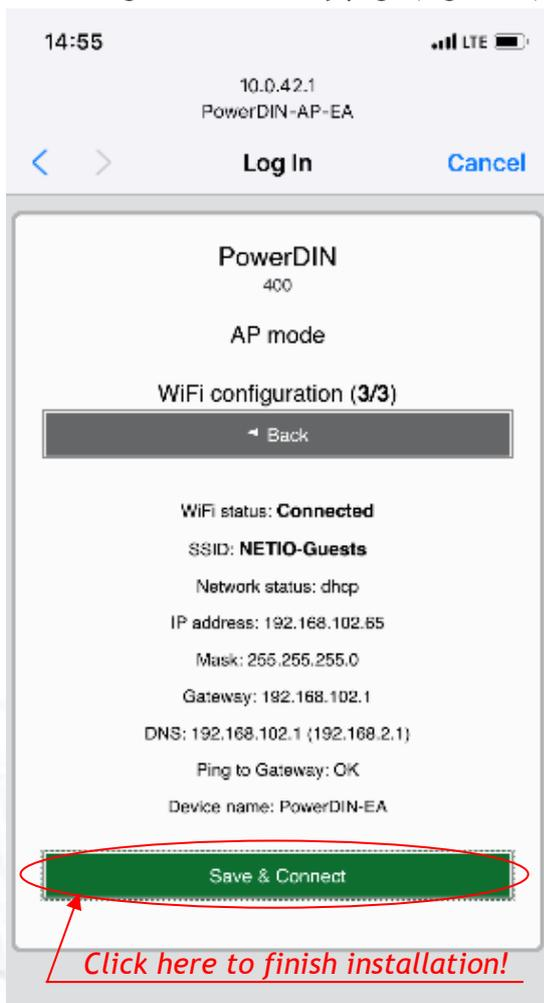
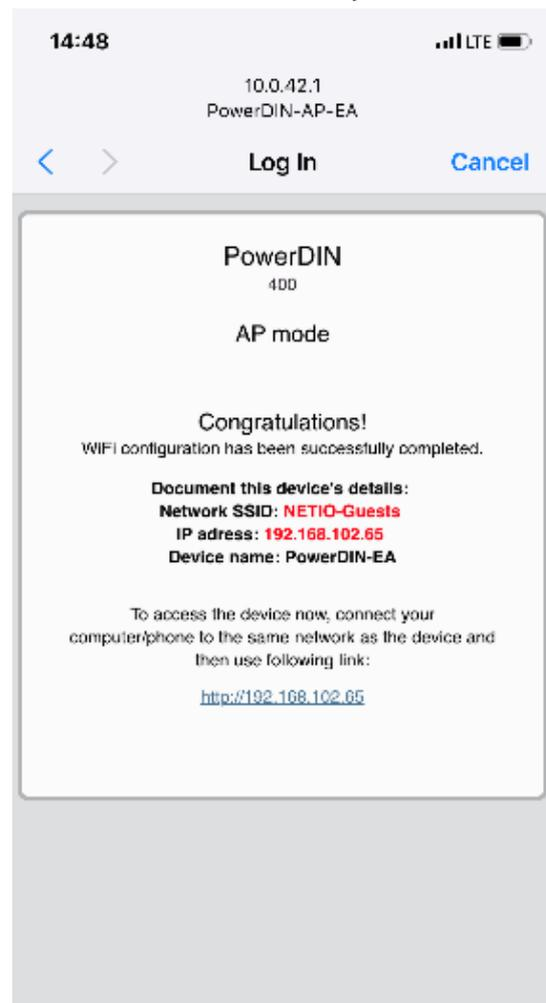

Figure 11 - Configured Wi-fi parameters
Figure 12 - Network connection info
- A page with the connection result is displayed. If it shows “WiFi status: Connected“, check the network parameters and then click “Save&Connect” to save the configuration (Figure 11). The device then exits the AP mode, connects to the selected WiFi network, and displays a network configuration summary page (Figure 12). WiFi connection is indicated with the yellow LED.